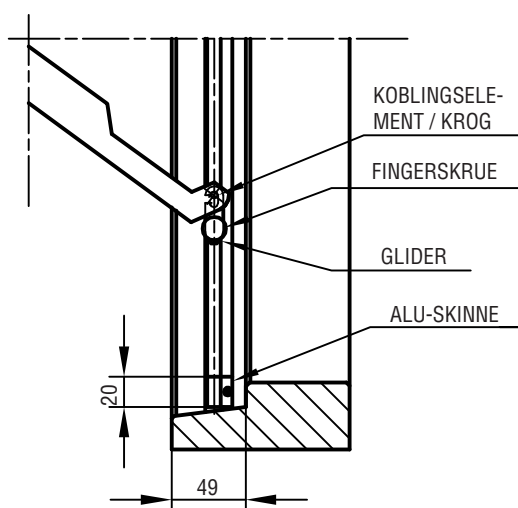

FIG. 1
1. DET SAMLEDE BESLAG MONTERES I HØJRE SIDE, SET INDEFRÅ, SÅLEDES AT ALU-SKINNEN I BESLAGET SIDDER I DIREKTE FORLÆNGELSE AF ALU-SKINNEN I 21144-52, SE FIG. 1.